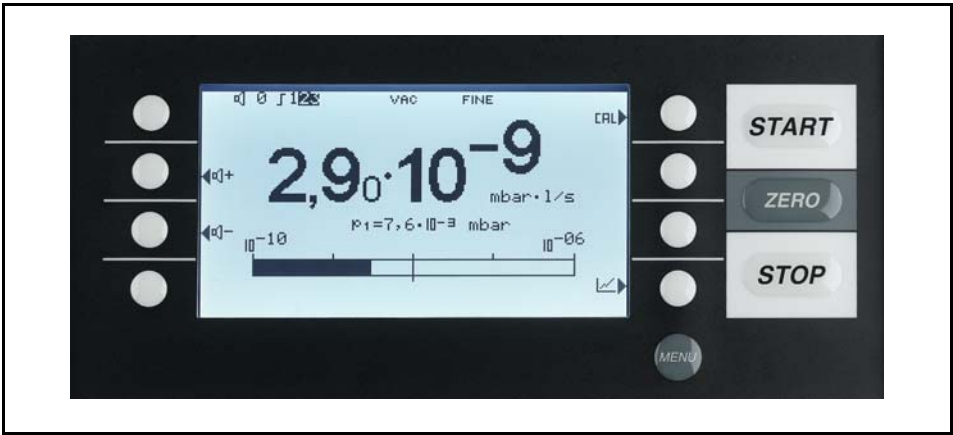
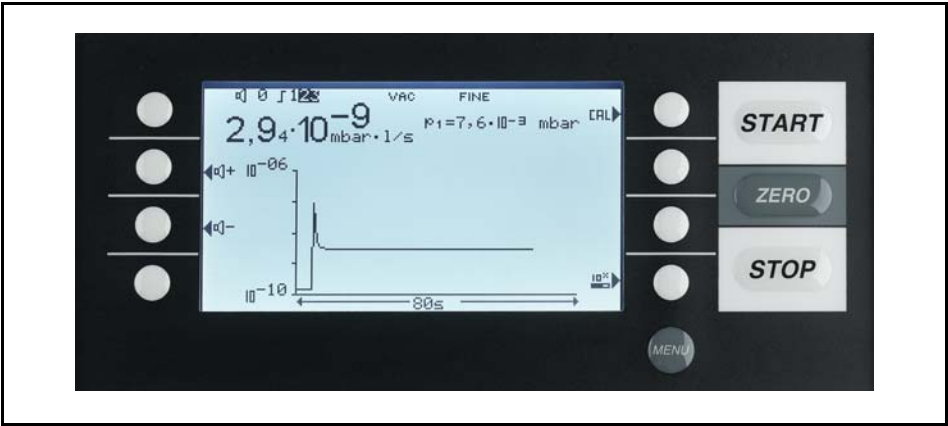

Fig. 10 Display: Measurement mode with bargraph
Fig. 11 Display: Measurement mode with bargraph
- Numerically, combined with a bargraph 10. Fig. 10.
- As trend: numerically, combined with a diagram (leak rate versus time) Fig. 11.
In the lower right corner of the display (next to the Soft Key no. 8, Fig. 10 and Fig. 11) you will find a symbol that allows to switch between the display modes by pressing Soft Key no. 8. See chapter 3.2.9 and 3.2.10 for explanations of the different display modes.
Access to calibration (Soft Key no. 5, Fig. 10 and Fig. 11) and access to the speaker volume (Soft Keys no. 2 and no. 3, Fig. 10 and Fig. 11) is the same in all modes. Also the status icons in the upper line are in common in both display modes.
On the left hand side two loud speaker symbols are shown, combined with the signs + and - (Fig. 10 and Fig. 11). By pressing the corresponding soft keys (Soft Keys no. 2 and no. 3) the volume can be adjusted for convenient loudness. In the bottom line of the display another loud speaker symbol is shown, combined with a number. This number indicates the level of the current loudness (ranges from 0 to 15).
The status line at the top of the display (Fig. 10 and Fig. 11) informs about (reading from left to right):
The display shows the leak rate in big digital figures, see Fig. 10. The unit of the leak rate is shown, too. Underneath the leak rate the inlet pressure is displayed in smaller digits. The units of leak rate and pressure can be defined in the menu (See Chapter 3.8.4).
In trend mode the leak rates are displayed over time Fig.11. In addition the actual leak rate and inlet pressure also are displayed digitally. The time axis can be defined in the menu (Please refer to Chapter 3.6.5). The intensity axis (y-axis) is defined the same way as the bargraph (Please refer to Chapter 3.6.4).